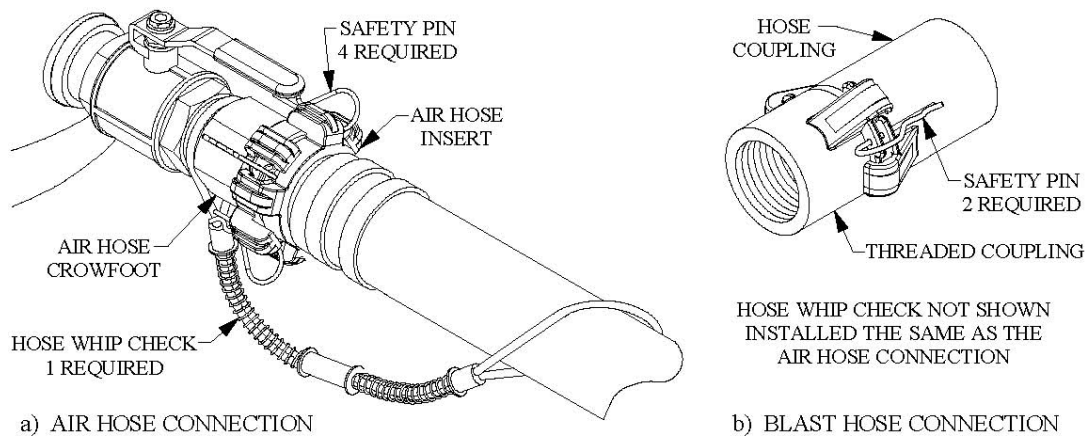

Figure 8.2 – Hose Connection Disconnect Protection
- 8.8. **Blast and Air Hose Couplings:** All air hose couplings have pin holes that align when connected. To protect against accidental hose disconnections safety pins must be installed through these holes. Each hose connection must also include a hose whip check that will hold the hose if there is an accidental disconnection. Connect one loop to each side of the connection and stretch out as shown in Figure 8.2 below. Check hose connections daily and replace missing or damaged pins and whip checks.